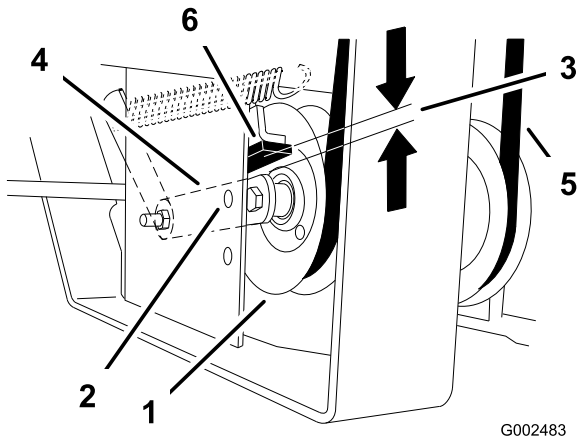

Figure 51
- Check the distance from the rubber stop and the arm of the spring loaded idler pulley when the idler plate is tightened. It needs to be 0 to 1/4 inch (0 to 6 mm) from the rubber stop (Figure 51).